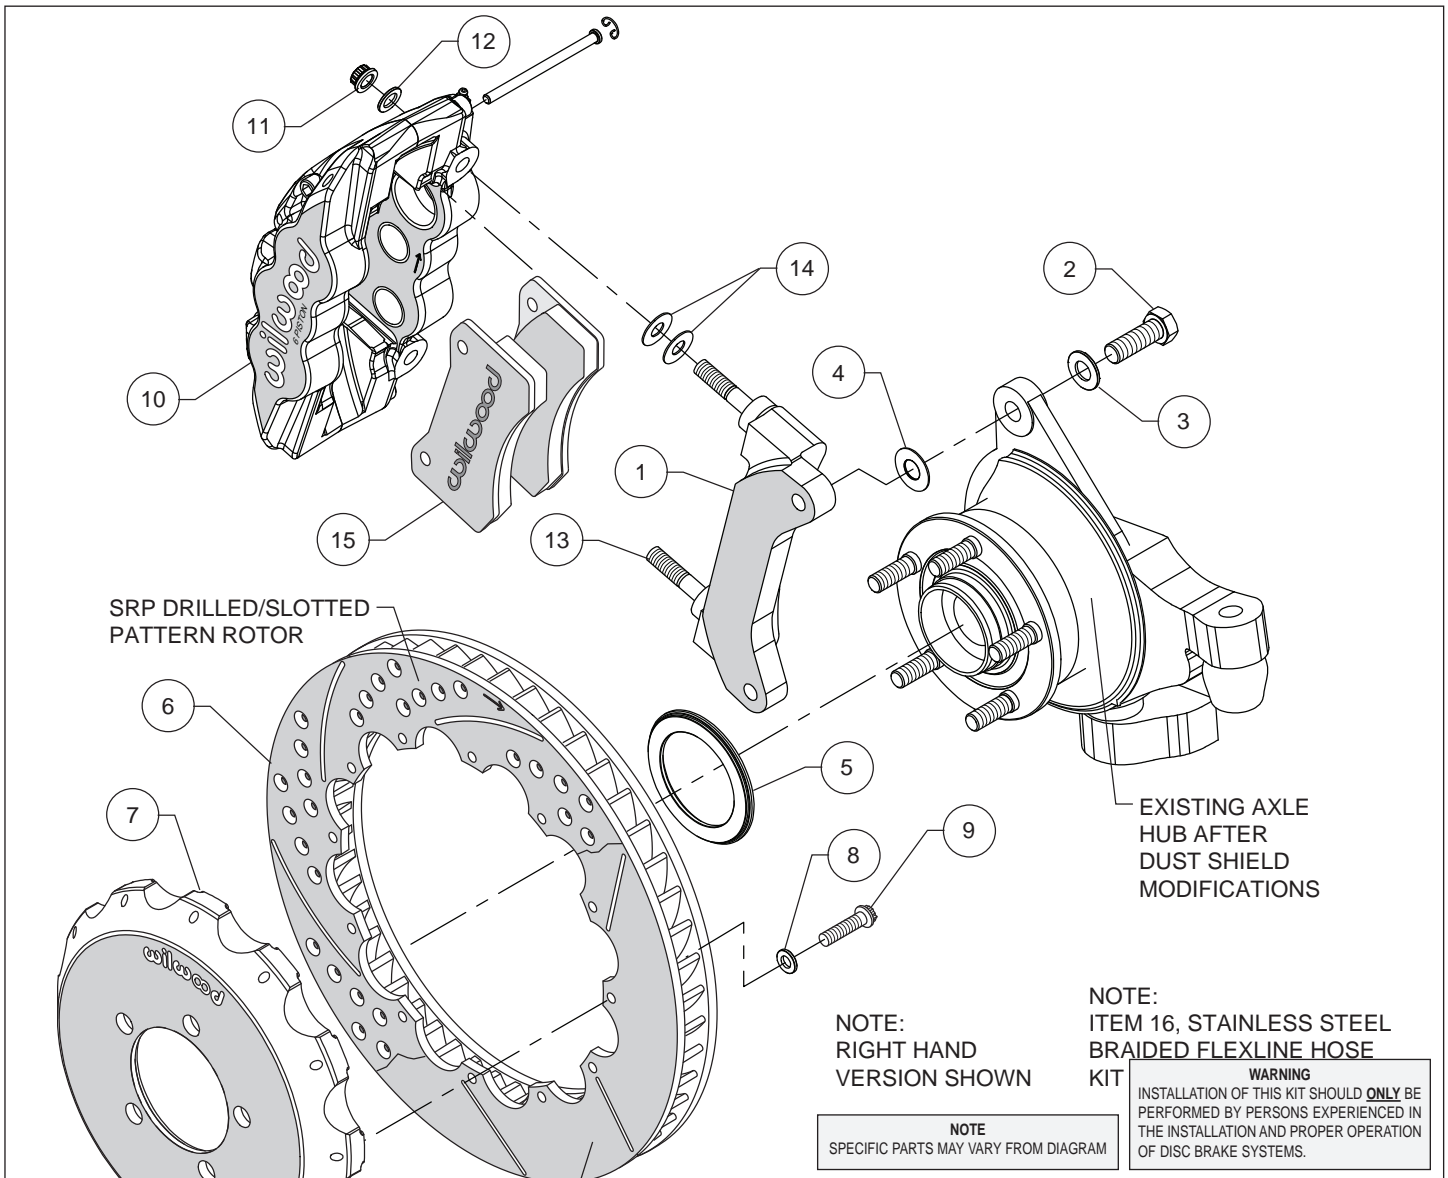
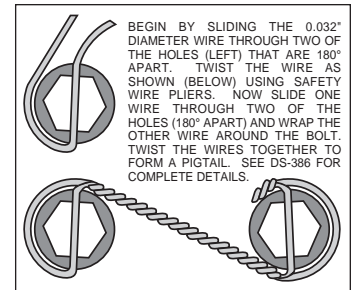

Figure 1. Typical Installation Configuration
Figure 4. Safety Wire Diagram
**Assembly Instructions** (numbers in parenthesis refer to the parts list and Figure 1 on the preceding pages):
- The caliper mount bracket (1) should initially be installed with clean, dry threads on the mounting bolts. Orient the bracket as shown in Figure 1, and install using washers (3) and bolts (2). Initially place one shim (4) on each bolt between the bracket and upright, Figure 1. Temporarily tighten the mounting bolts. **NOTE:** The bracket must fit squarely against the mount bosses on the upright. Inspect for interference from casting irregularities, machining ridges, burrs, etc. Later, after the caliper alignment has been checked, the mount bolts will be secured using red *Loctite*® 271.
- Orient the rotor (6) and the hat (7) as shown in Figure 1 and Photo 1. Attach rotor to hat using bolts (9) and washers (8). Using an alternating sequence, apply red *Loctite*® 271 to the threads, and torque to 155 **in-lbs**. For an added measure of security, the bolts may be safety wired using standard 0.032 inch diameter stainless steel safety wire as shown in Figure 4.
- Slide the rotor registration adapter (5) onto the axle register on the axle hub with the smaller O.D. facing outward, Photo 2. Slide the hat/rotor assembly onto the axle hub. **NOTE:** The hat must fit flush against the axle hub flange or excessive rotor run out may result. Install three lug nuts (finger tight) to keep the hat/rotor assembly in place while continuing with the installation.
- NOTE:** This kit contains distinct right and left hand calipers that must be mounted in a specific direction, as described below. Lubricate the caliper mounting studs (13) with lightweight oil. Initially place two .030" thick shims (14) on each stud as shown in Figure 1 and Photo 3. Mount the caliper (10) onto the bracket (1) using lock nuts (11) and washers (12), Figure 1. Ensure that the caliper is mounted so that the largest pistons are at the rotor exit end of the caliper, in relation to the direction of rotor rotation. Temporarily tighten the lock nuts and view the rotor through the top opening of the caliper. The rotor should be centered in the caliper, Photo 4. If not, adjust by adding or subtracting shims (4) between the bracket and the upright. Always use the same amount of shims on each of the two mounting bolts. Once the caliper alignment is correct, remove the bracket mounting bolts (2) one at a time, apply red *Loctite*® 271 to the threads, and torque to 60 ft-lb.
- Remove the two pad retaining pins from the caliper (10) by carefully popping out the pin retaining clips and sliding out the pins. Insert the brake pads (15) into the caliper from the bottom, Figure 1 and Photo 5. With the friction material facing the rotor, secure the brake pads in place with the pad retaining pins and clips, Photo 6. Reinstall the caliper onto the caliper mounting bracket and temporarily tighten the lock nuts. Check that the top of the brake pad is flush with the outside diameter of the rotor, Photo 7. If not, adjust by adding or subtracting shims (14) between the caliper and the bracket. After the caliper pad height is set, torque the caliper lock nuts (11) to 47 ft-lb.